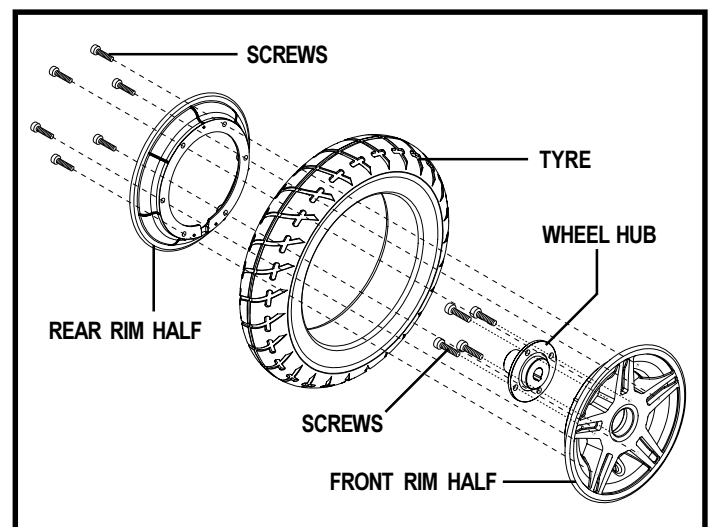

Figure 25. Jazzy 600 Drive Wheel
6. Remove the screws that fasten the two rim halves together. See figure 25.